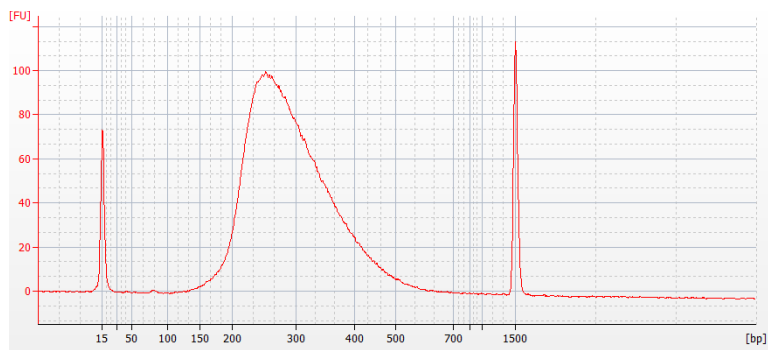

Figure 4 Analysis of amplified library DNA using a DNA 1000 Bioanalyzer assay.
- 7 Verify that the electropherogram shows a distribution with a DNA fragment size peak of approximately 225 to 275 bp. Determine the concentration of the library DNA by integrating under the peak. A sample electropherogram is shown in Figure 4.